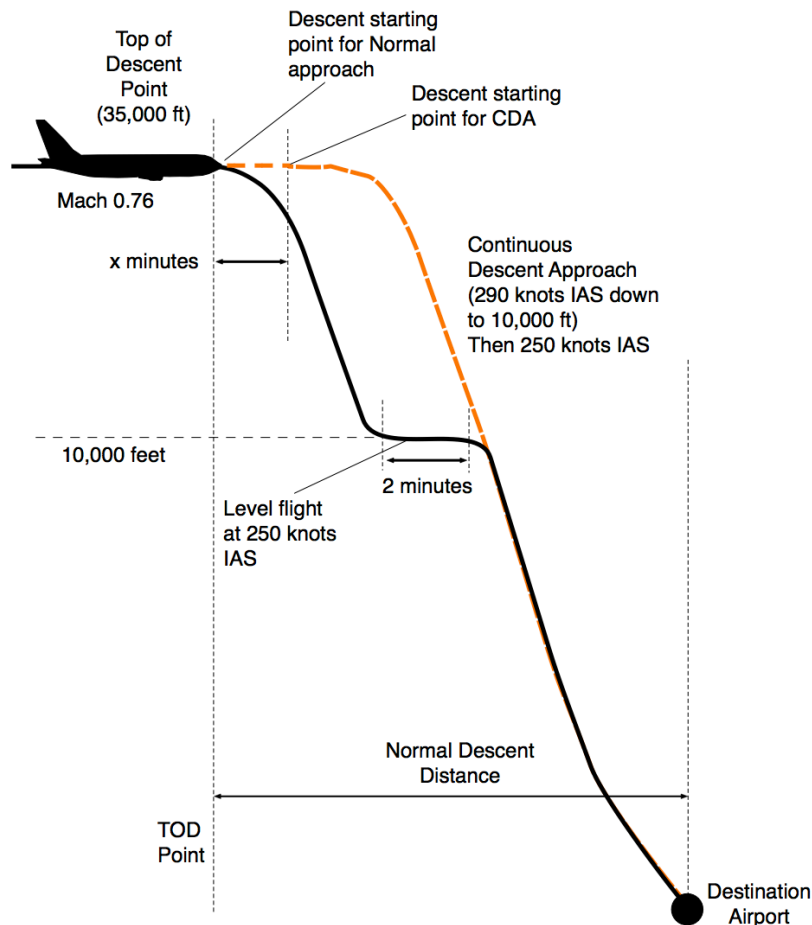
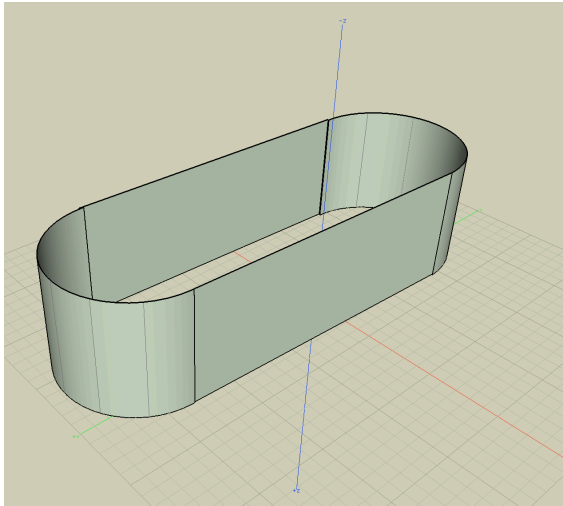

Figure 1. CDA Approach Compared to Typical Approach to LAX Airport.
Figure 2. Sample 3D view of a Holding Pattern near an Airport.
One of the fuel savings initiatives under NextGen is to conduct Continuous Descent Approaches (CDA) to busy airports. A sample CDA approach is shown in Figure 1. The CDA approach starts  $x$  minutes later (called CDA distance offset) than the normal approach for our analysis. The aircraft initially is straight and level at 35,000 feet and flying at Mach 0.76. A typical approach to a busy airport like LAX involves one or more step down segments as shown in Figure 1. Figure 2 shows actual flight paths extracted from radar data provided by the FAA for a terminal design study. The data applies to large twin-engine transport aircraft. Note that according to Figure 2, below 10,000 feet both profiles will follow the same trajectory.
- b) Using the Boeing 737-800 class transport aircraft in our course material, estimate the fuel savings for a single flight to LAX using the CDA technique. Assume the mass at the TOD point is 58,000 kg. The speed parameters of the approach are provided in Figure 1. Assume the idle thrust is constant at 1/12 of the maximum generated at altitude. In your calculations consider the normal approach having a 2 minute step at 10,000 feet. During the step segment, the aircraft flies straight and level and thus the aircraft engines generate thrust to overcome drag.